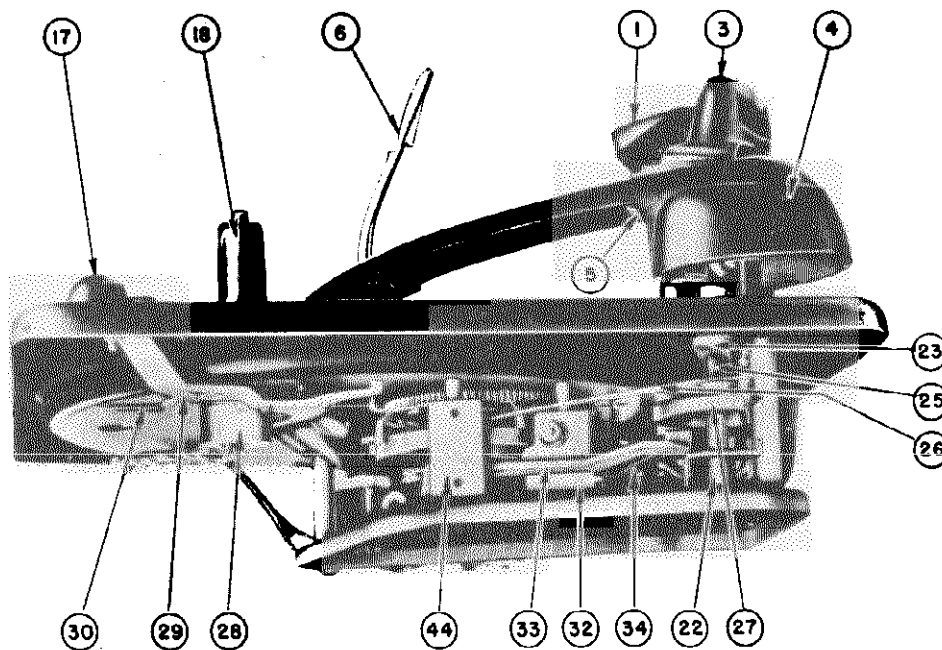

FIG. 6 - PARTS LOCATION -- RIGHT SIDE VIEW
- 2 - Pickup Arm Shaft (illus. 22 Fig. 6). Apply one drop each to bottom bearing point, bracket hole and hole through Main Base Plate.